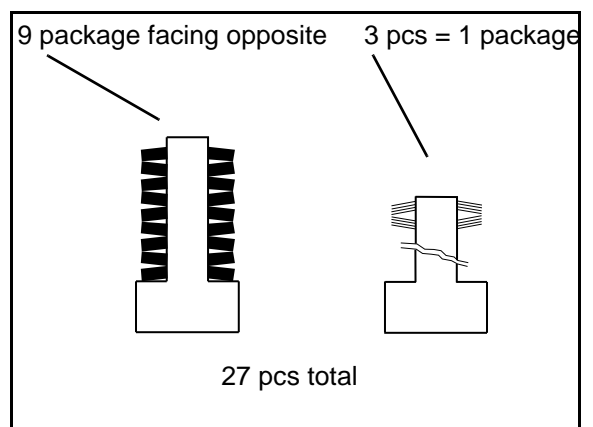

Fig. 12
- Replace all cup springs and mount them as shown in Fig. 12.